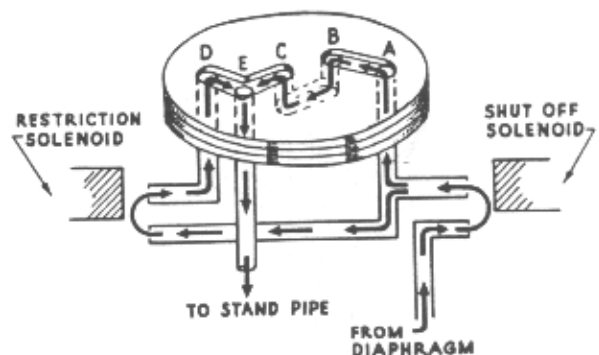

Figure 19—Orifice Plate
2. The fuel leaves the pressure regulator and flows through the shut-off solenoid (Figure 19) provided the valve has been unseated by the solenoid around the valve.